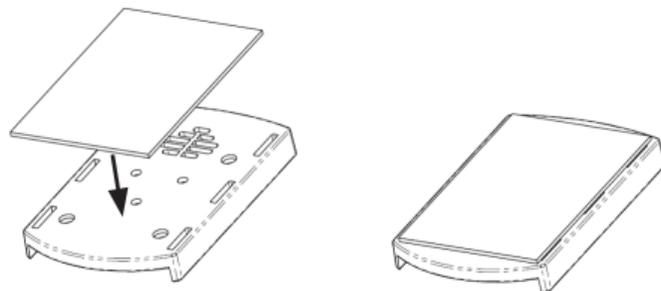

Figure 1
3. Remove the liner on one side of the Double-Sided Adhesive Tape and apply the tape to the Adapter Plate as shown in **Figure 1**.